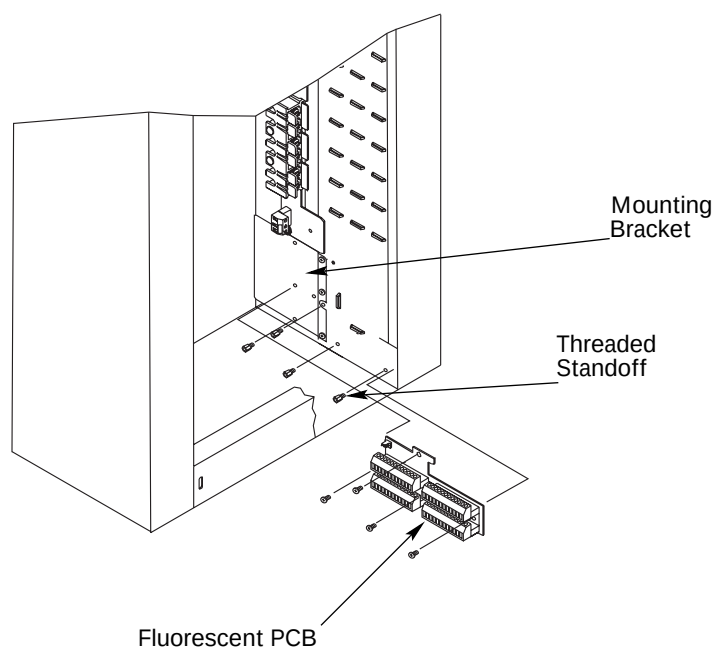

Figure 23: Mounting the FLO option
2. Attach threaded standoffs to the rack as shown in *Figure 23*.